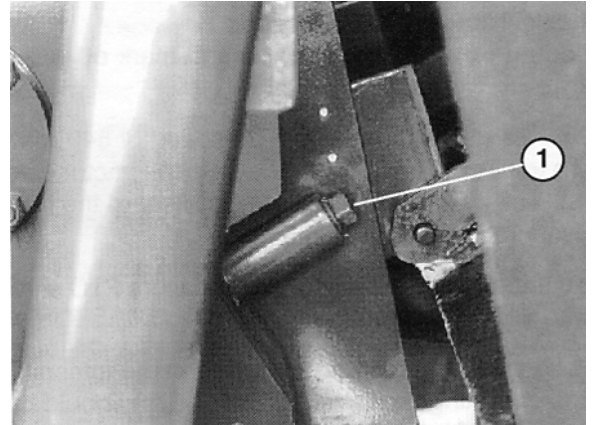

Figure 11
1. At front of aerator, remove (2) plugs from gear case ports (Fig. 11).